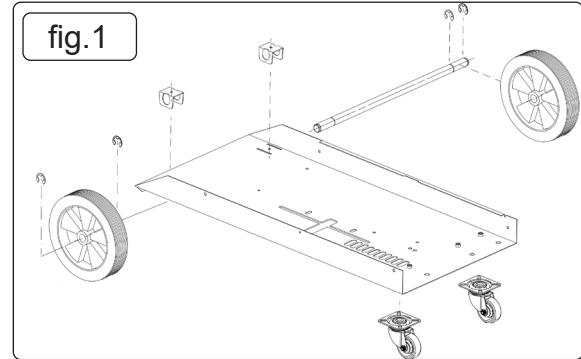

fig.1
4.1. **ASSEMBLING THE WHEELS:** (Refer to fig.1) The wheels are more easily assembled with the welder placed upside down on a smooth non-abrasive surface. The welder should be turned over by two people as it is very heavy.